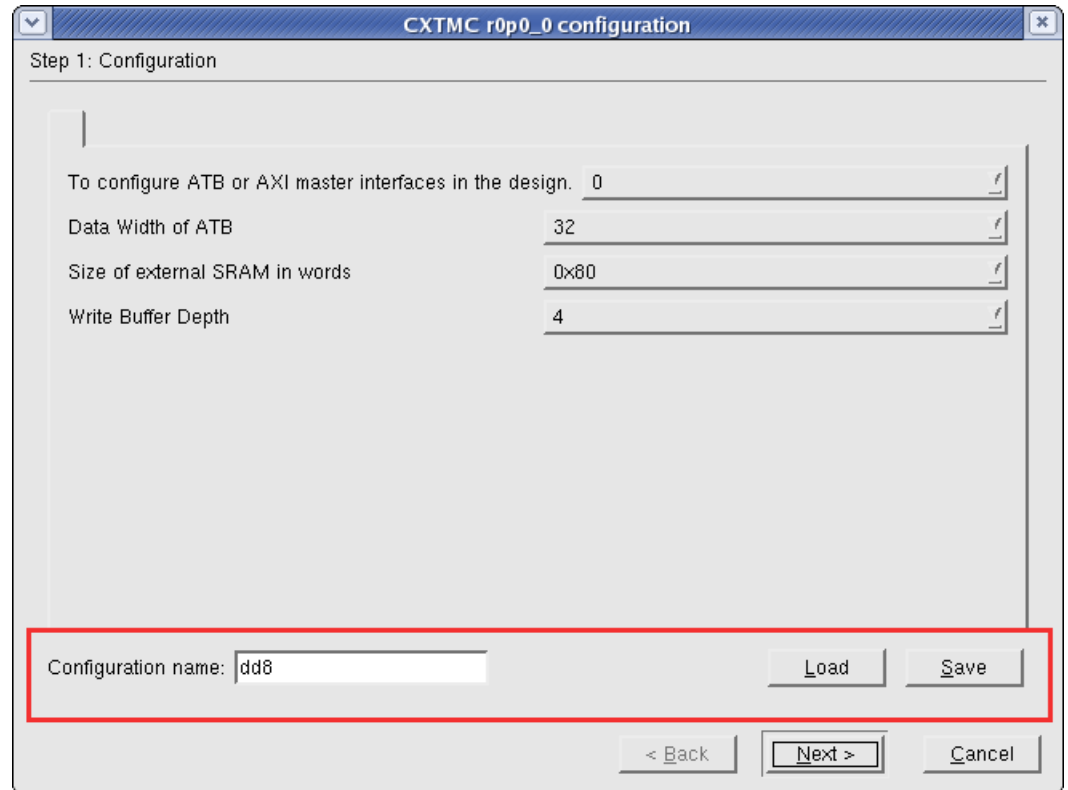

Figure 4-5 Configuration file name for AMBA 4 batch mode
3. If required, update the name for the XML configuration in the Configuration name field. See Figure 4-5.